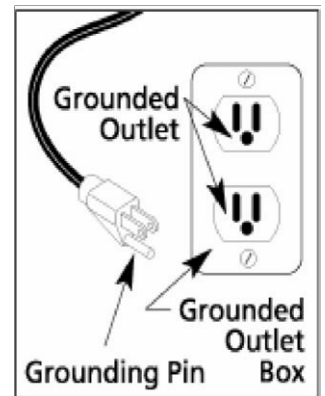

Figure 2
3. This product is for use on a nominal 110-volt circuit and has a grounding plug that looks like the plug in Figure 2. Make sure that the product is connected to an outlet having the same configuration as the plug. Do not use adapters with this product.